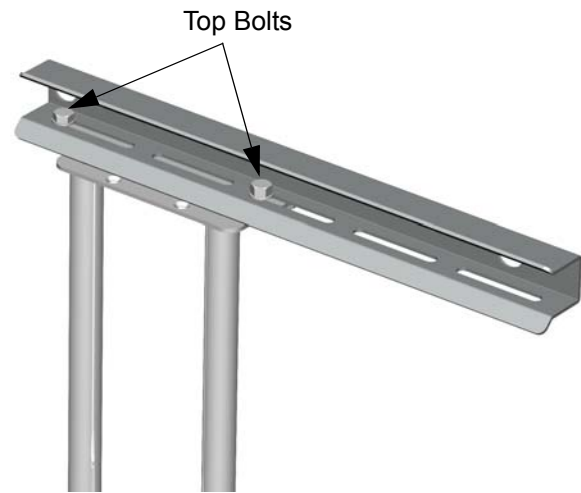

Figure 13. Adjust Swing Arm – Left of Center
2. Remove four bolts (two on the top and two on the bottom) securing the swing arm assembly to the top and bottom mounting brackets (see Figure 13).
- For left of center, see Figure 13.